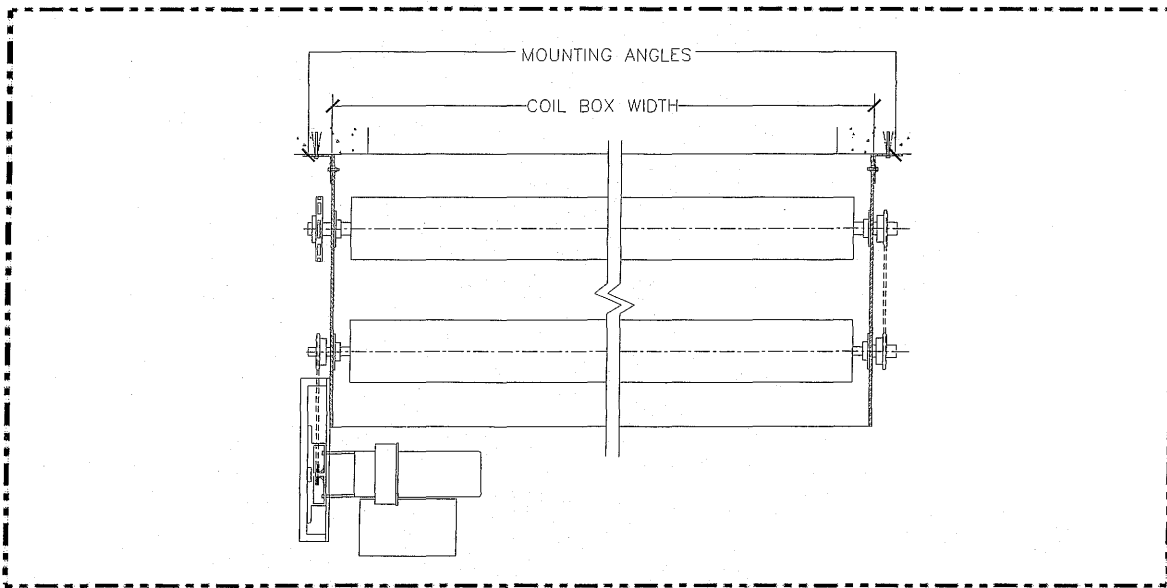

FIGURE 2
STEP 2 - INITIAL TRACK MOUNTING & INSTALLATION (REFER TO FIGURE 2)